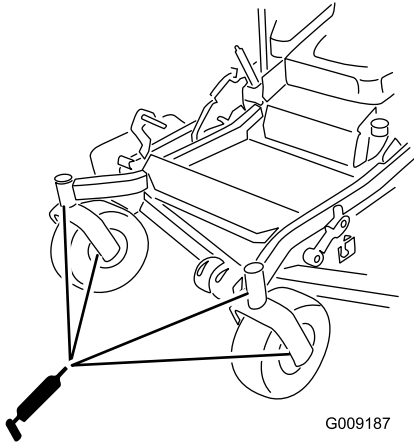

Figure 42
9. Remove the grease fitting in the hole. Install the hex plug and dust cap (Figure 42).